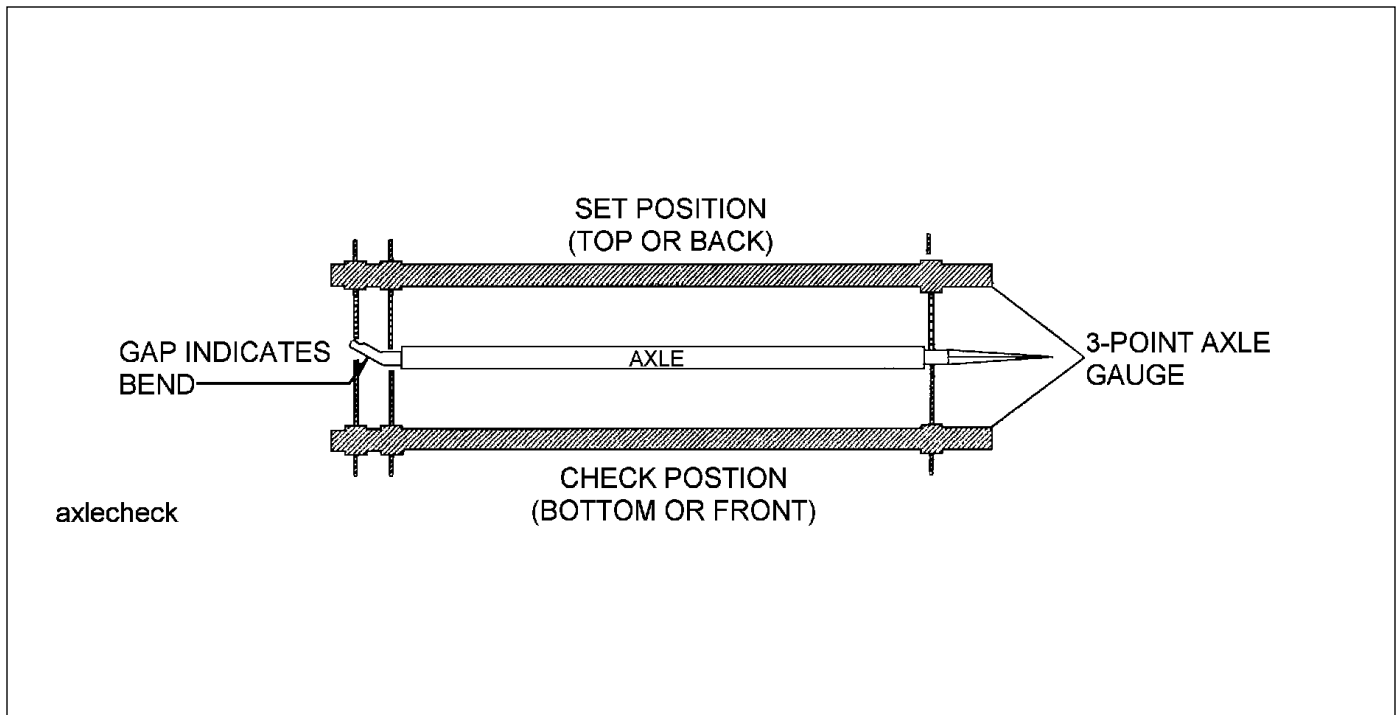

Figure 4-7: Checking Axle for Bend
2. Place a 3-point axle gauge against the front side of the axle, and adjust each axle gauge point to the axle. (Double point end against the inner and outer wheel bearing surfaces of the spindle being checked and the other point on the inner bearing surface on the other spindle.) **(See Figure 4-7.)**
3. Move the axle gauge and place against the back side of the axle. If either of the points of double point end fails to touch the axle surface, a bent spindle is evident. A point gap of .015" or more is considered excessive tire “toe” and the axle must be replaced **(See Figure 4-7.)**